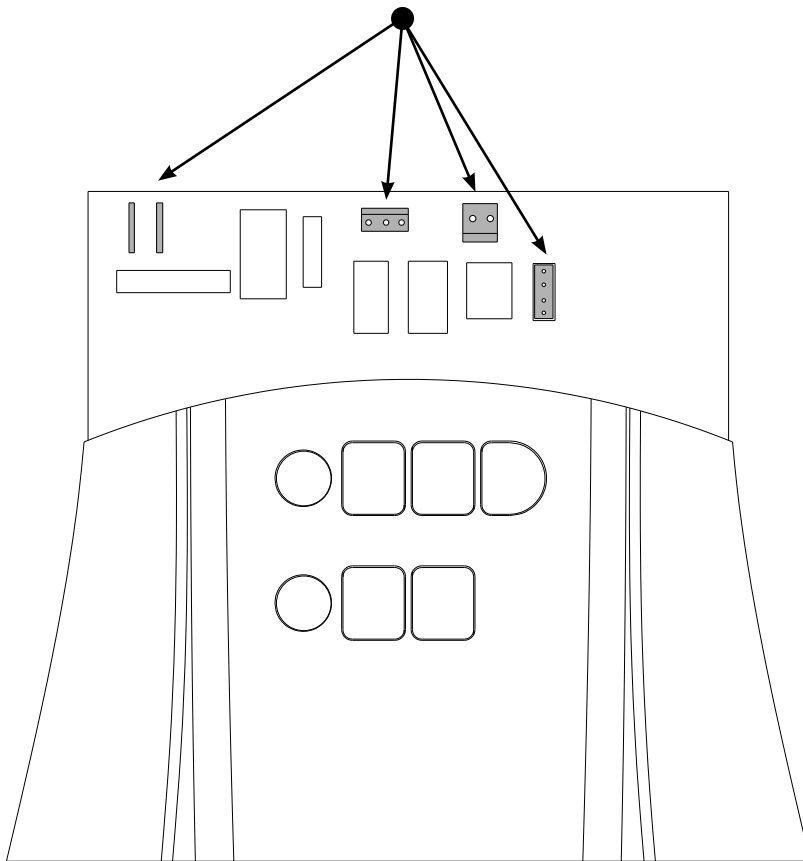

FIG. 4.
7. Disconnect motor wires, light bulb harness, opto harness, and motor harness. FIG. 4.
12. Install motor wires, light bulb harness, opto harness, and motor harness onto PCB. FIG. 4.